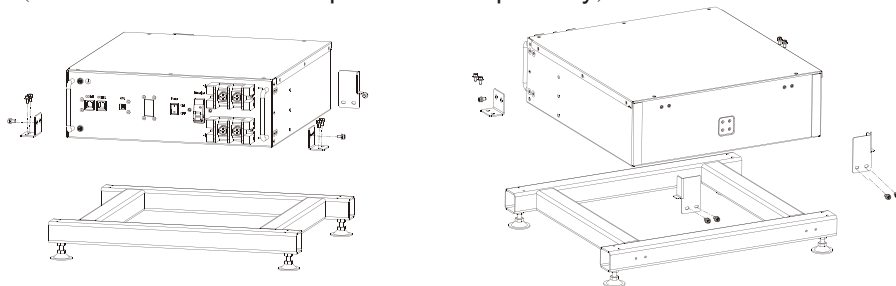

Figure 7 Install the first battery
Step 1: As shown in Figure 7, place the battery on the base and tighten limit brackets located at the four corners (screw: M4*10 outer hexagonal and internal torx combination screw; torque: 1.6 N.m; 10pcs in total)
Step 2: As shown in Figure 7, stack the second battery neatly on the first one and tighten the limit brackets with a T20 screwdriver(screw: M4*10 external hexagonal box Combination screw ; torque requirement: 1.6 N.m; 10pcs).